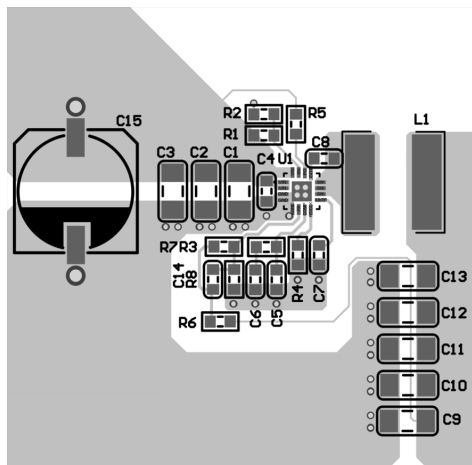
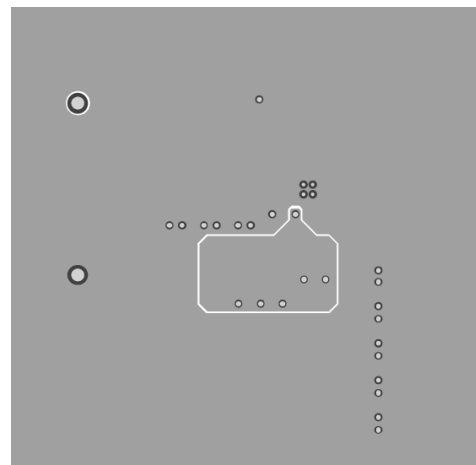

Figure 10. Top Layer
Figure 11. Bottom Layer
For the SGM61060, 50kHz is selected as the crossover frequency. From the Figure 10, the gain at 50kHz is -9.816dB and the phase is -125.663 degrees. The error amplifier gain set by  $R_3$  is required to compensate power stage for +11.35dB at  $f_c$ , and the value can be calculated from Equation 27.
It can be seen from Figure 10 that DC gain is 19dB and -3dB is at 2.295kHz.  $C_6$  sets the location of the compensation zero along with  $R_3$ . To place this zero on the converter pole, use Equation 28.
- Layout is a critical portion of good power supply design. See Figure 10 and Figure 11 for a PCB layout example.